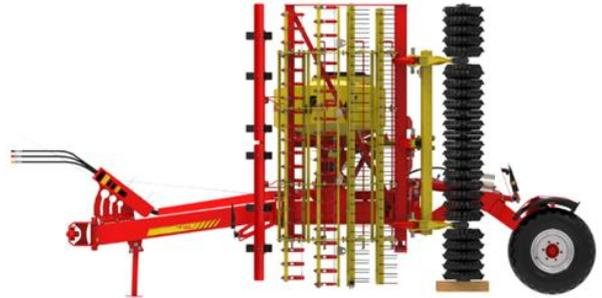

Figure 33
- The implement must be folded and the chassis must be lowered (see Figure 33).
- Set down the implement longitudinally on the low-loader (see Figure 33).